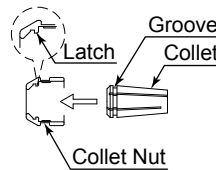

Fig. 7
③ To install the collet, hold the collet at a slight angle, and insert it into the collet nut (Fig. 7).